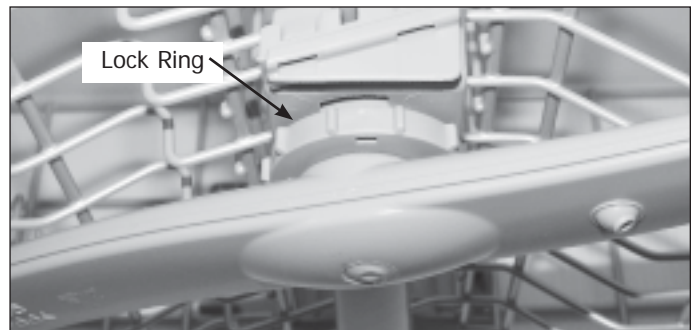

Figure 4-13.
2. The center spray arm has a lock ring holding it to the delivery tube mounted under the upper rack. Turn the lock ring clockwise looking down from top of rack to release arm. (See Figure 4-13)